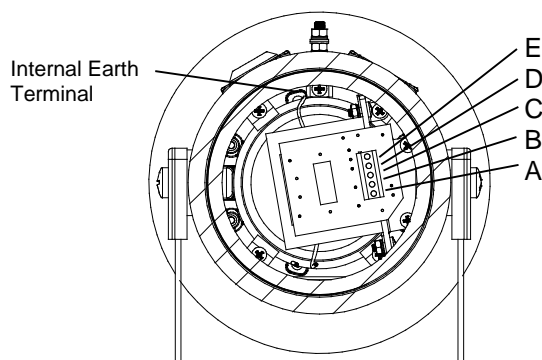
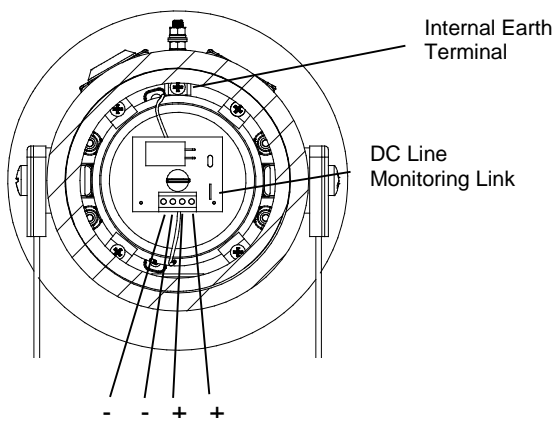

Fig. 3 Line in Terminals
Fig. 4 Low Impedance Terminals
- Fit an M20x1.5 suitably certified cable gland or 1/2" NPT conduit into the corresponding entry in the enclosure and connect the field wiring to the appropriate loudspeaker terminals as shown in section 6 / Fig 3 (70V Line In) or section 7 / Fig 4 (Low Impedance) of this manual. The power supply terminals on the low impedance units are duplicated so that units may be connected in parallel. An end of line monitoring resistor may be fitted to either type
D1xL2 and D1xL1 8 ohm and 16 ohm low impedance loudspeakers have dual input terminals on the PCB assembly for input and output wiring. A cable of up to 4.0mm² can be connected to each terminal. If DC line monitoring is used cut the link on the board (see Fig. 4).
Internal earth connections should be made to the internal Earth terminal (see Fig. 3 and 4). It should be fitted to the internal earth point using a ring crimp terminal to secure the earth conductor.
On low impedance units the end of line resistor used must have a minimum resistance value of 2k ohms and a minimum wattage of 0.5 watts or a minimum resistance value of 500 ohms and a minimum wattage of 2 watts. On the low impedance units care must be taken with the polarity of the monitoring voltage. If an end of line resistor is fitted to a unit the links on the printed circuit boards of all loudspeakers in the line must be cut for the dc blocking capacitors to be in circuit in order to dc monitor the line (see Fig 4).